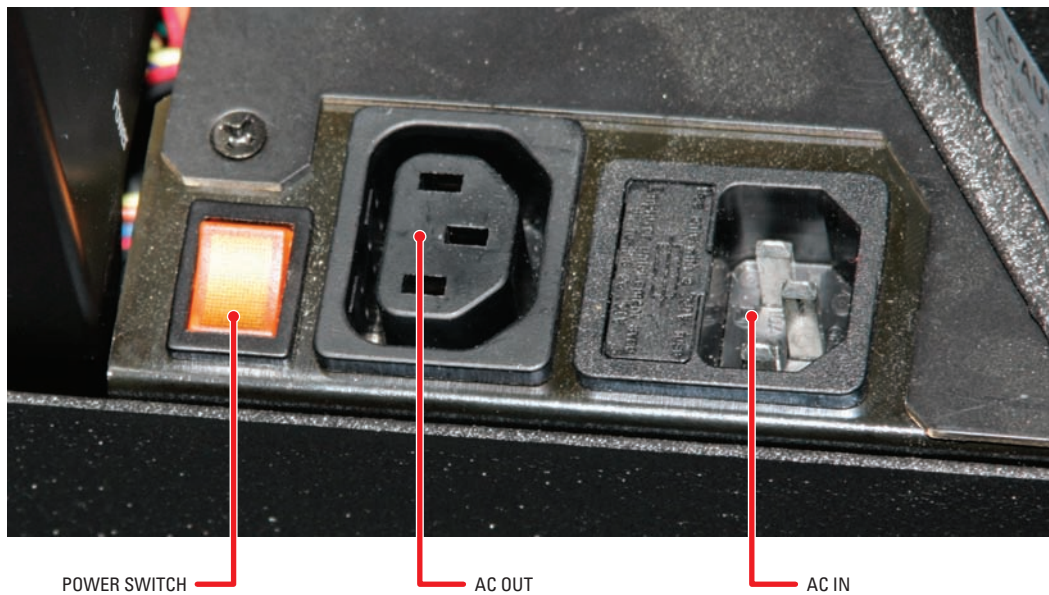

Figure 10. Power Switch and Receptacles
1. Bring AC power next to the electronics module. Connect the power to the receptacle located on the rear panel. The voltage can be 115 VAC (90–132 VAC) or 230 VAC (200–254 VAC). Refer to Figure 10.